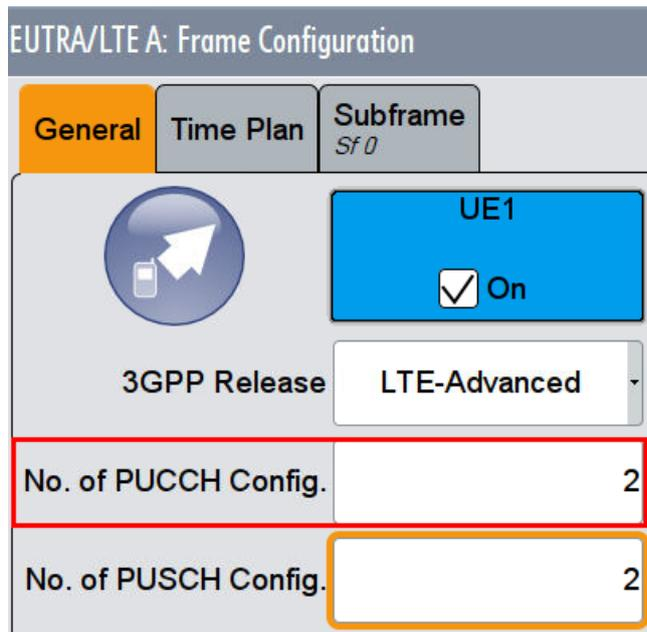

Fig. 3-114: Set two configurable PUCCH subframes
4. Set **No of PUCCH Config** to 2 (Fig. 3-114)